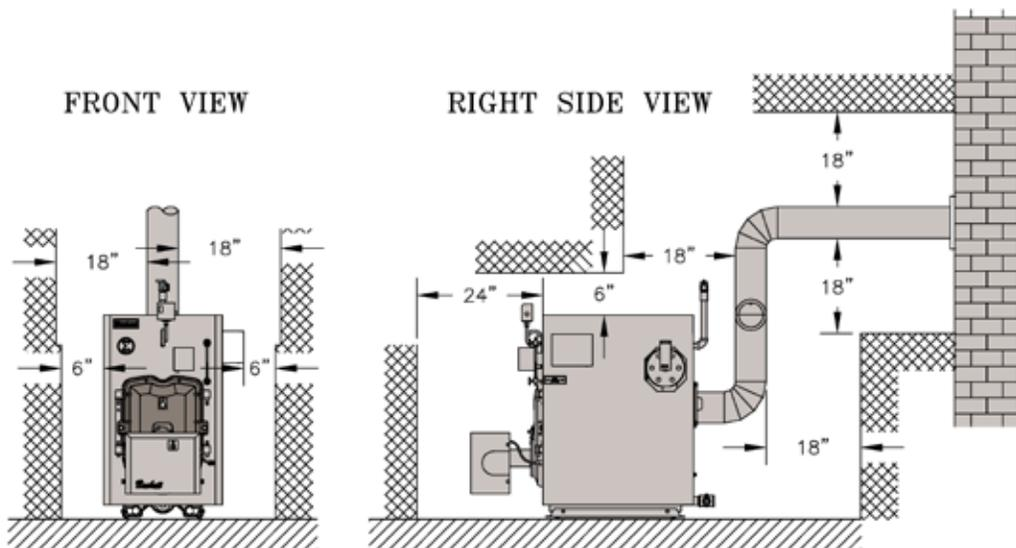

Figure 2: Minimum Installation Clearances To Combustible Materials (Inches)
- 12" minimum for rear smokebox cleaning (Note: This dimension will also be controlled by horizontal to vertical to horizontal smokepipe arrangement - See Figures 2 and 14.)
5. For minimum clearances to combustibile materials. See Figure 2.